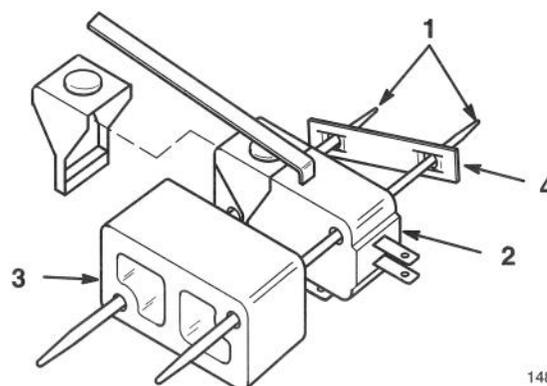

Figure 6
3. Using toothpicks (or similar item) as a guide assemble switch **with dust boot**, spacer and Tinnerman nut (Fig. 6).